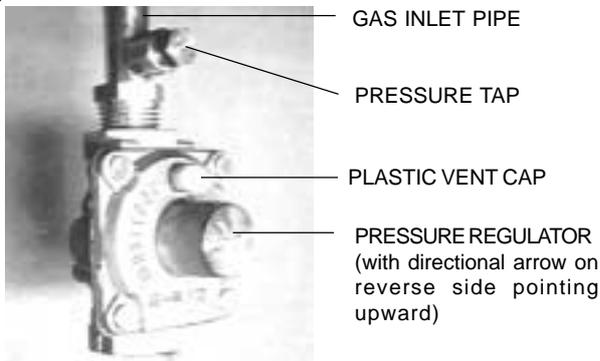

Fig. 5 - Installation of Gas Pressure Regulator
**NOTE:** The 425 HN is supplied with a gas pressure regulator that must be installed on the heater before attaching the gas supply line. See fig. 5. Failure to install the gas regulator as shown in figure 5 will be a violation of CSA certification of the unit. The regulator supplied with the heater is preset for the gas shown on the rating plate to the correct pressure. It is an appliance level regulator designed for (low inlet) pressure (less than 1/2 Psig or 15" W.C.)
**NOTE:** The gas pressures specified below refer to pressures taken at the pressure tap on the gas inlet pipe just above the regulator (See Fig 5). These readings should be taken while the heater is operating at full input – i.e. maximum water flow with the temperature dial selector turned all the way clockwise.